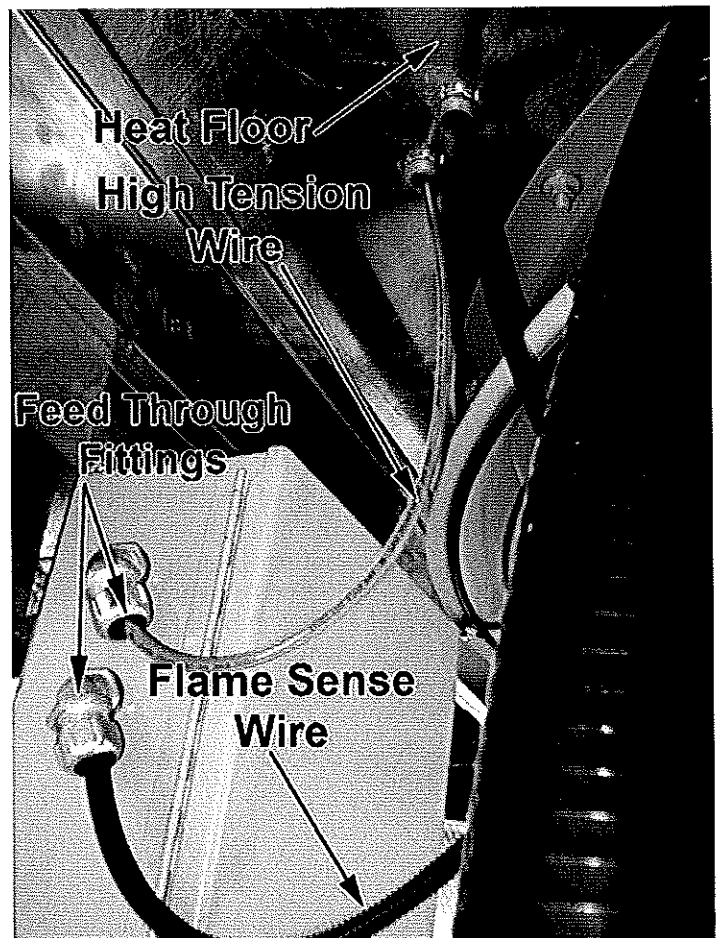

Figure 31
- There is (1) set of Ignition Wires, (1) large orange High Tension and (1) black 18 gauge Flame Sense Wire, which must be lowered from the side of the Burner Housing down through the Heat Floor and to the side of the Ignition Board Box that has the (2) black Feed Through Fittings. One fitting is for the orange Ignition Wire and the other is for the black Flame Sense Wire. See Figure 31.